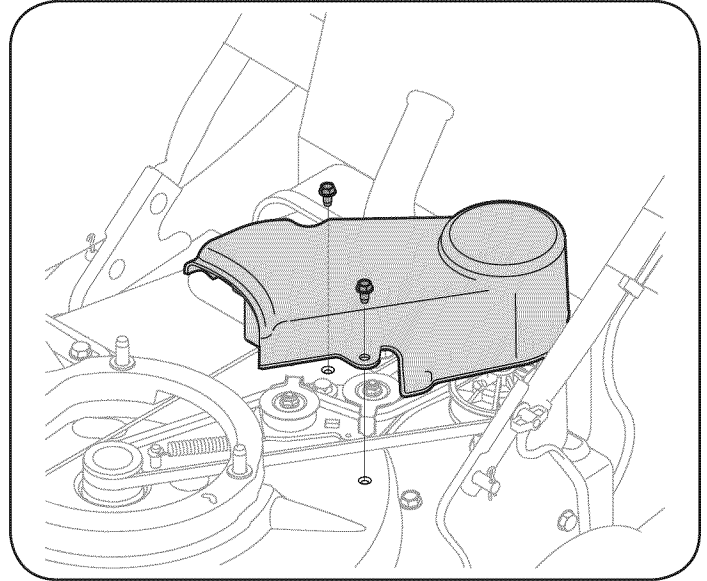

Figure 23
4. Remove the three self tapping screws securing the belt cover, and remove belt cover. See Figure 23.